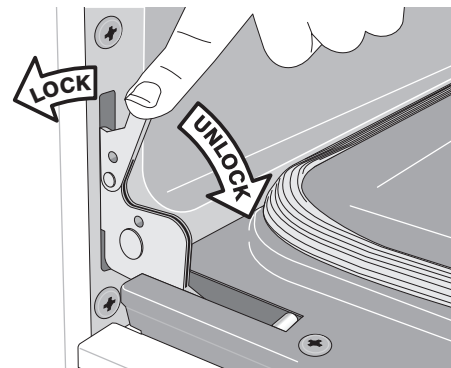

Figure 27: Door hinge locks
2. Pull the door hinge locks on both left and right door hinges down from the oven frame completely towards the oven door (Figure 27). A tool such as a small flat-blade screwdriver may be required.
4. Push the door hinge locks up towards and into the oven frame on both left and right oven door hinges to the locked position (See Figure 27).